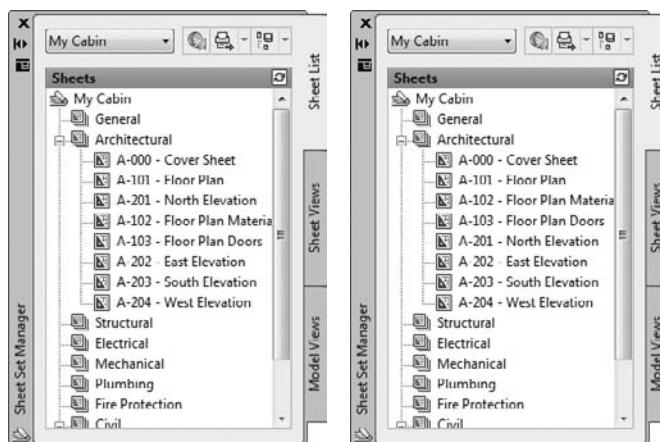

FIGURE 14.65 The renamed sheets (left), sequentially ordered (right)
3. After renaming and renumbering each of the newly created layouts, click the OK button to exit the Rename & Renumber Sheets dialog box. The sheet list in Sheet Set Manager should look like the left image of Figure 14.65.
Note how the sheets are no longer sorted sequentially in the Sheet List palette. Use your mouse to drag each drawing into its proper position. When you're finished, the Architectural subset should be sorted like the right image of Figure 14.65.